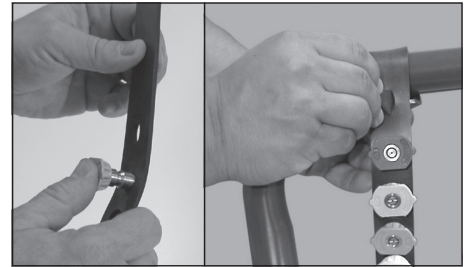

Figure 10 - Insert spray tips into the holder
2. Insert spray tips into rubber tip holder (See Figure 10).